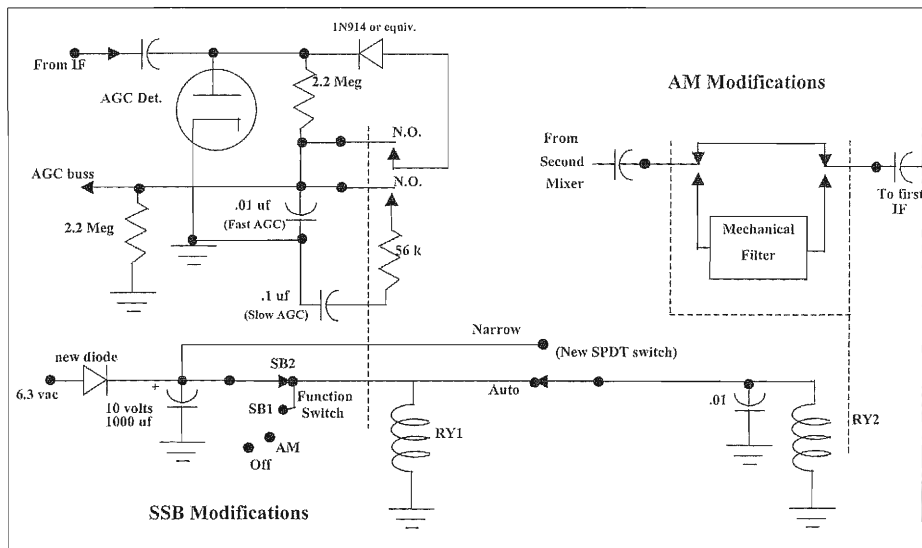

Figure 2: Schematic diagram showing the SSB and AM modifications to the HA-350 receiver.
The schematic for these modifications is shown on the left hand side of **Figure 2**. You will notice that I've also changed the original fast and slow AGC capacitor values to .01 $\mu$ f, and .1 $\mu$ f. There is also a new 56k-resistor in series with the slow AGC capacitor. It is there to allow the AGC detector to quickly increase the AGC voltage on strong signals, preventing an annoying pop on the first syllable of a strong SSB signal.
**Figure 2** shows the circuit. Be careful with lead layout when wiring up this relay, so as to ensure the shortest connections and minimal capacitive coupling from the input to the output of the mechanical filter. You will notice that the receiver gain is now much higher on AM with this change, and that is due to getting the insertion loss of the mechanical filter out of the circuit. Excessive loss in that filter could also be the reason some HA-350s are described as "deaf".
I couldn't resist the notion of being able to select both wide and narrow bandwidths on AM, for those situations where QRM demands more selectivity. That is the reason for the added switch, as shown in **Figure 2**. I used an existing hole on the rear apron of the receiver to mount a